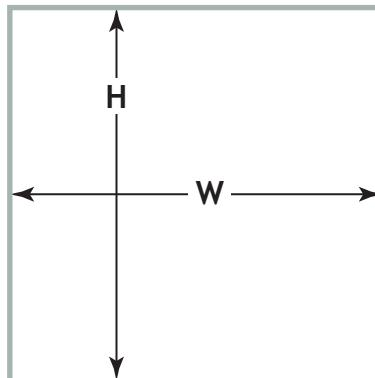

Figure 2-1: PM PLUS Panel Cutout
1. Make the panel cutout using the measurements in Figure 2-1 or Figure 2-2 .